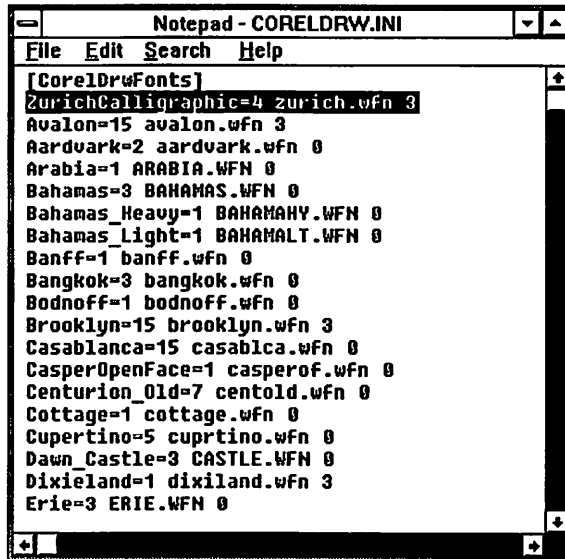

FIGURE 1-21 Edit the CORELDRW.INI file so that your favorite end-of-the-alphabet fonts show at the top of CorelDRAW's font selection window.
2. Rearrange the order of the fonts in the list by cutting a line (be sure to cut the entire line) and pasting it elsewhere in the same section (Figure 1-21).